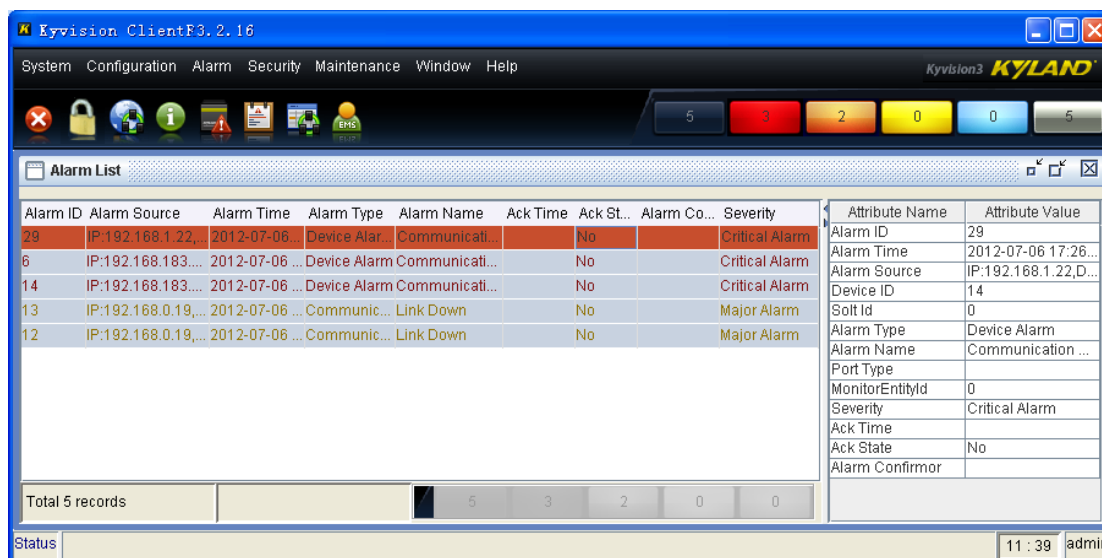

Figure 88 Alarm List of All Subnets
- Click [Alarm] → [Live Alarm Table] or  in the toolbar. The list of active alarms of all subnets is displayed, as shown in Figure 88.
In the alarm list in Figure 85, Figure 86, or Figure 88, select one or multiple unacknowledged alarms. Right-click the selected alarm(s), and select [Acknowledge Alarm].